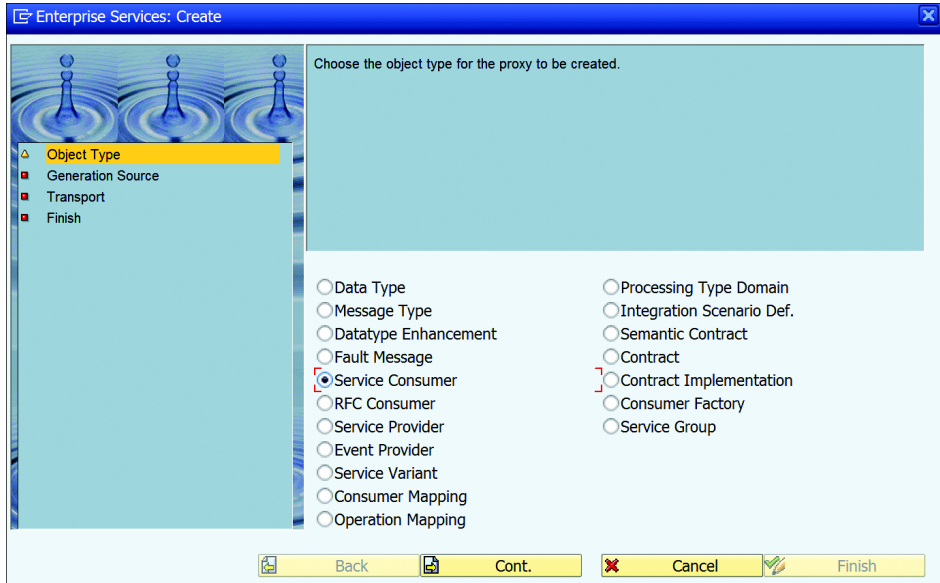

Figure 19.89 Create Consumer
2. This will open the ENTERPRISE SERVICES wizard. Select the SERVICE CONSUMER radio button, as shown in Figure 19.89, and click CONT.